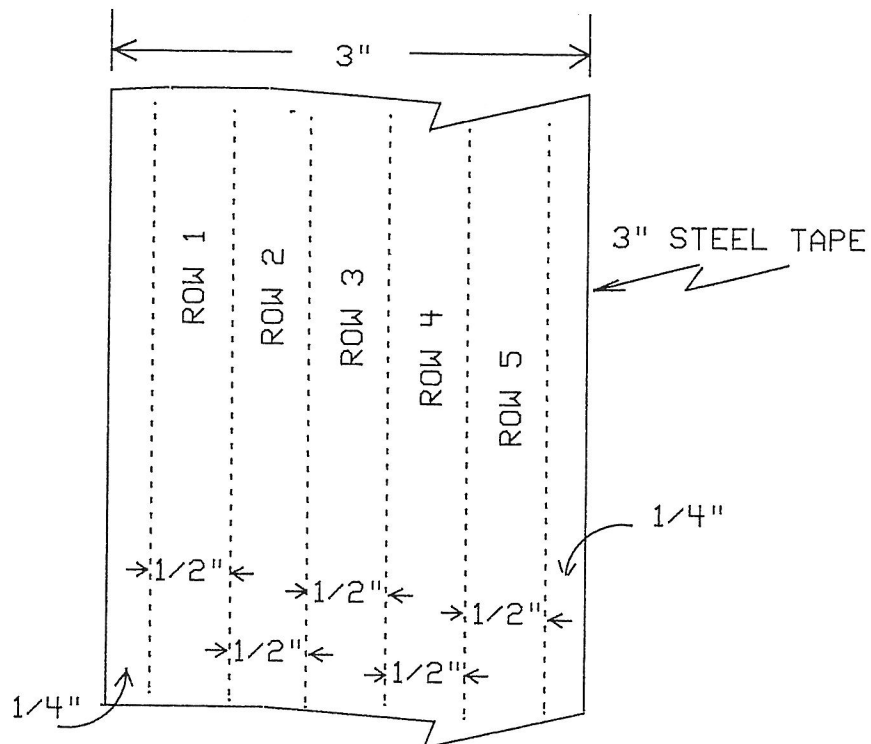

Figure 6. 3" Tape Dimensions
The 3" tape is divided into (5) five 1/2" rows. The first row starts at 1/4" from the left side of the tape, the second row starts at 3/4" and the third row at 1 1/4", etc. See figure 6.